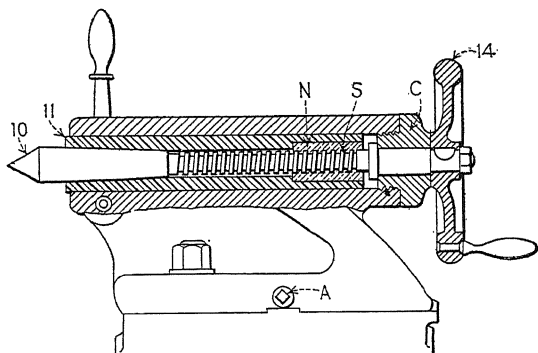

FIG. 14.—Partial section view of tailstock.
the spindle; the base which is fitted to the inside ways; the screw and handwheel which control the movement of the spindle; the device for clamping the spindle; and the tailstock clamping bolts. The tailstock is for the purpose primarily of giving an outer bearing and support for work being turned on centers. To accommodate different lengths of work, it may be moved along the inside ways and clamped in any position, and in addition, the tailstock spindle (11) (Fig. 14), which holds the dead center (10), is adjustable longitudinally by means of a handwheel, which operates the screw (S). The